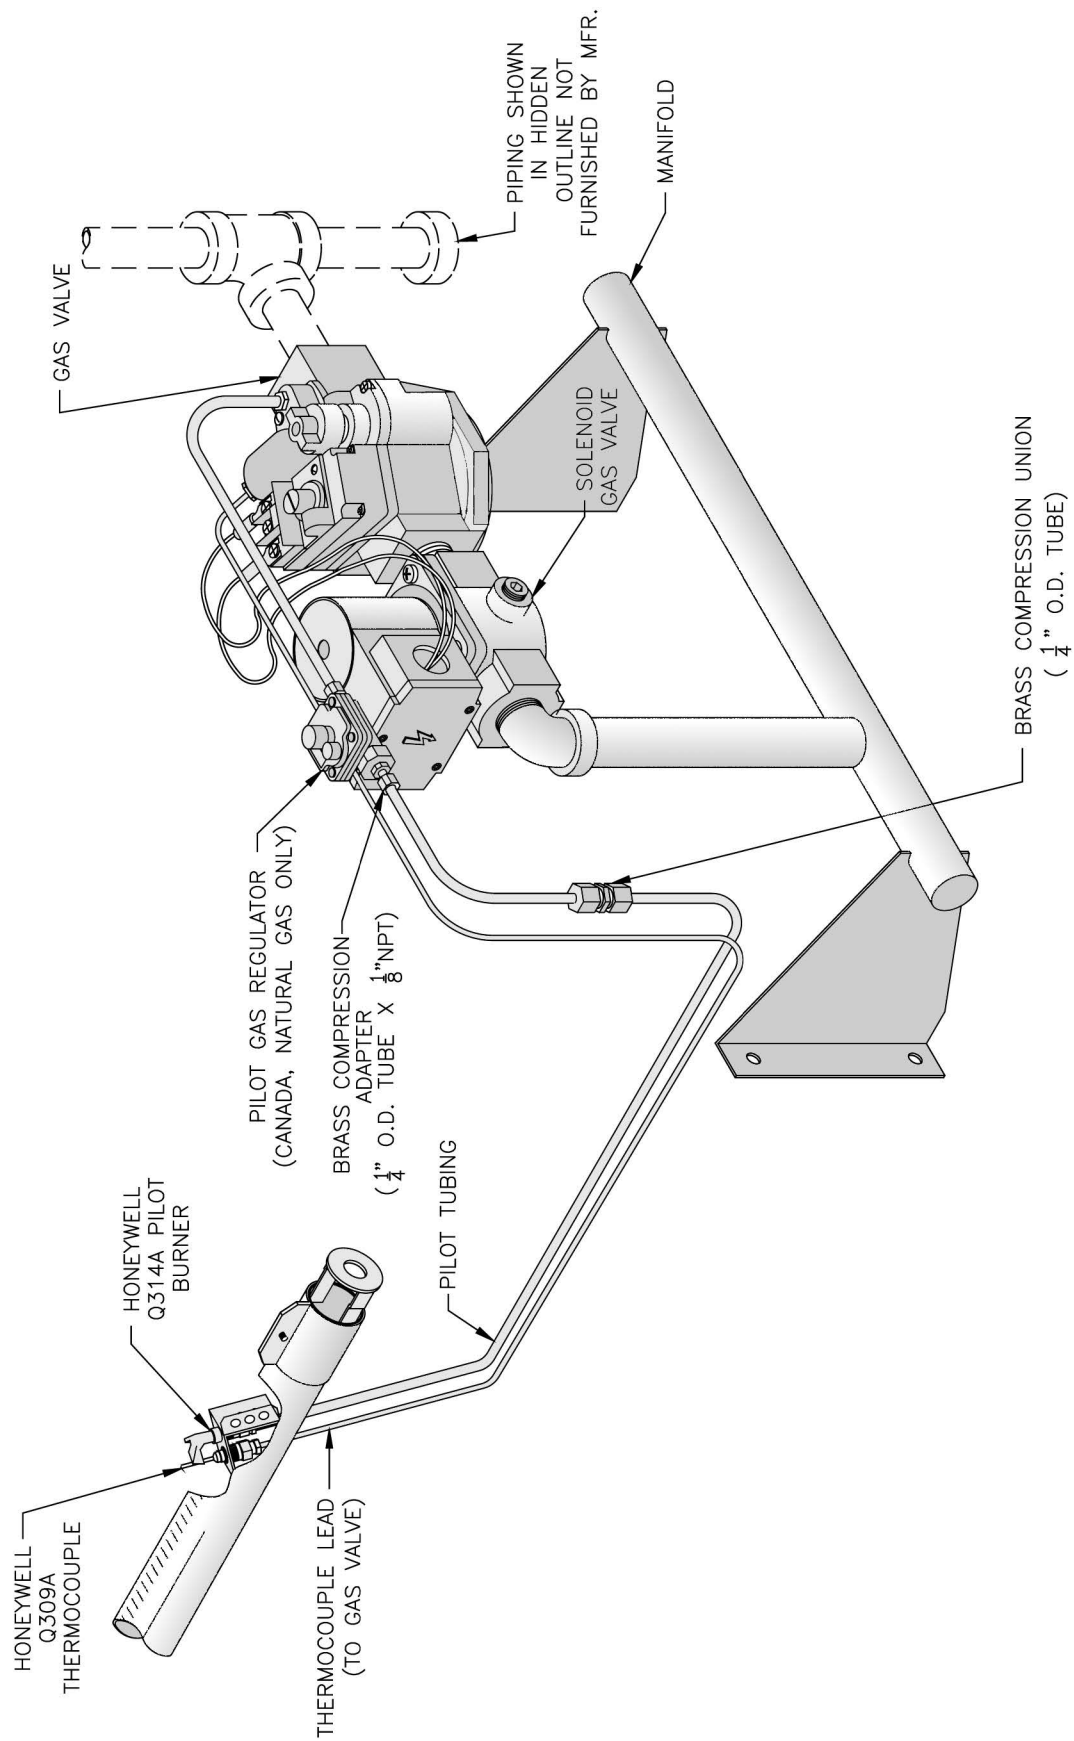

Figure 10: Schematic Gas Piping, 24V Standing Pilot, 806B & 807B
1. Install Gas Control Assembly on Manifold. See Figure 10. Use thread (joint) compound (pipe dope) resistant to action of liquefied petroleum gas.
2. Install pilot burner piping and controls. See Figure 10.